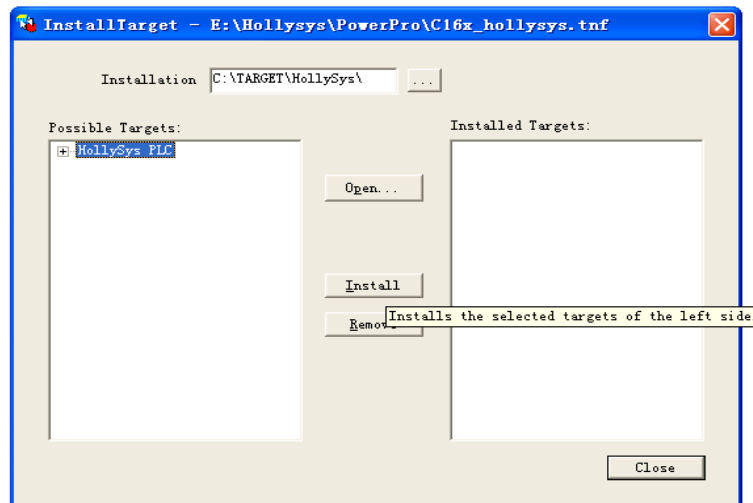

Figure 1-3-3 Install Target (3)
- Then a target “**Hollysys PLC**” is displayed in the window of “**Possible Targets**” on the left of “**InstallTarget**” window. Select the target “**HollySys PLC**” and click the button “**Install**”, as shown in figure 1-3-3.